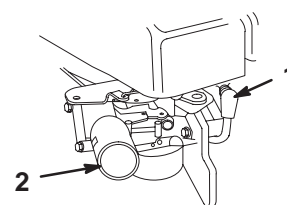

Figure 8
1. Connect the wire to the spark plug (Fig. 8).
2. Push in the primer 3 times, waiting one second between each push (Fig. 8).